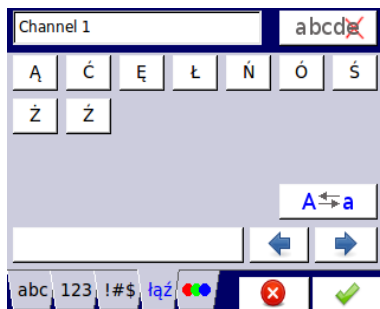

Fig. 7.4. Text editor example – diacritical letters
- diacritical letters, **Fig. 7.4**,